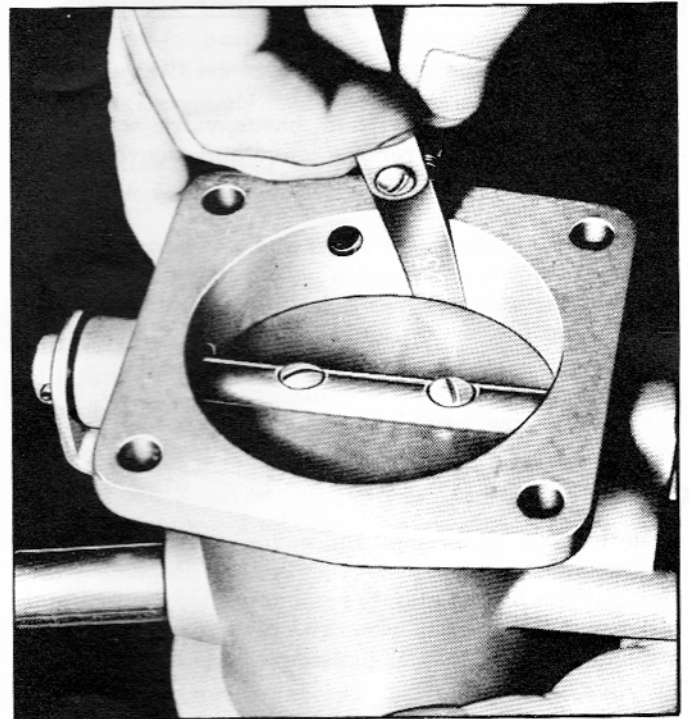
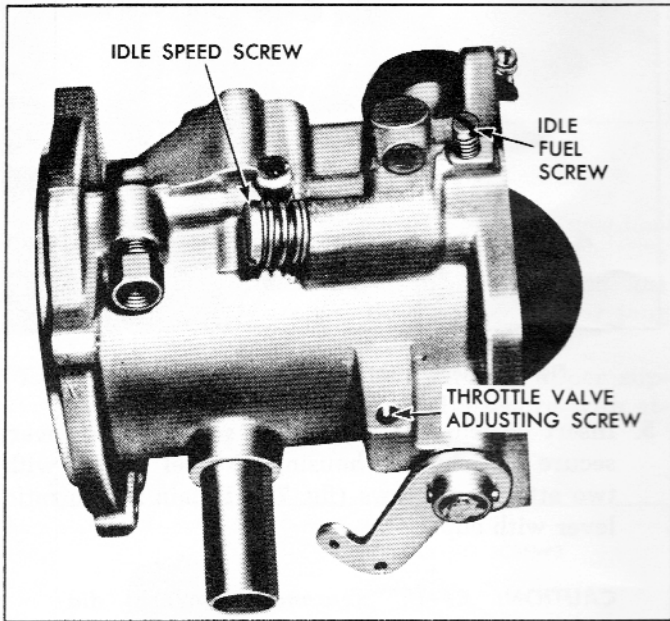

Fig. 69—Checking Throttle Valve to Body Clearance
Fig. 70 - Throttle Valve Clearance Adjusting Screw Location
1. Install throttle valve assembly (if removed). Check clearance between valve and air meter body (fig. 69). This clearance should be approximately .0045" with throttle resting solidly against stop screw. Remove lead plug and hex head set screw to make this adjustment (fig. 70).